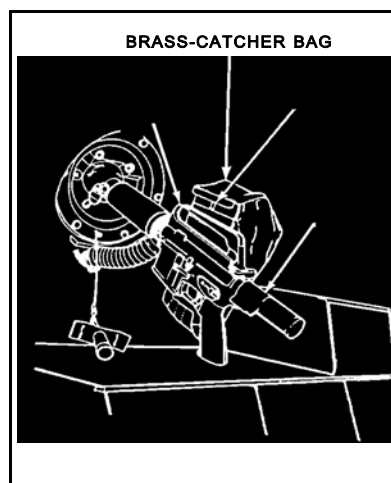

Figure 1. Installed M231 firing port submachine gun with brass-catcher bag.
- a. Take the brass-catcher bag off the gun by pulling upward on the bag, ensuring that the brass-catcher bag pin comes out of the hole in the carrying handle (Figure 1).